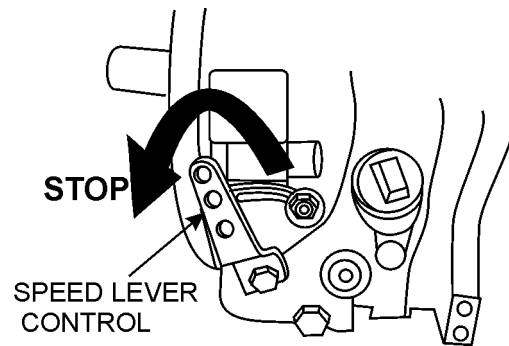

Figure 9. Engine Speed Lever (STOP Position)
2. After the engine cools, move the engine speed lever to the **STOP** position (See Figure 9).